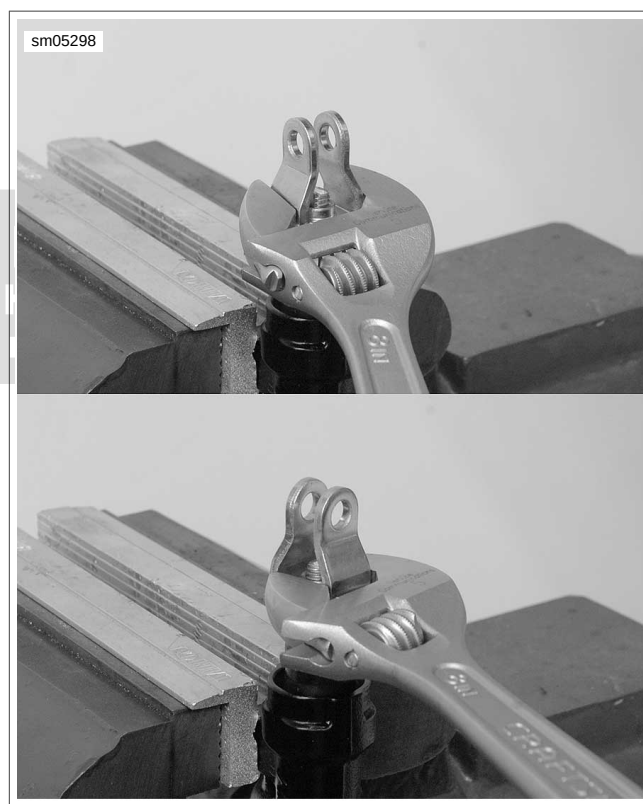

Figure 2-111. Holding Yoke (Top: Incorrect, Bottom: Correct)
See Figure 2-111. Grip yoke by the edges with an adjustable wrench. Do not grip yoke by the flats or the yoke may become deformed.
- See Figure 2-111. Hold yoke with an adjustable wrench. Using an open-end wrench, loosen shoulder nut. Remove yoke.
See Figure 2-111. Grip yoke by the edges with adjustable wrench. do not grip yoke by the flats or the yoke may become deformed.
15. See Figure 2-111. While holding yoke with an adjustable wrench, turn shoulder nut back against yoke. Tighten to 130-173 **in-lbs** (14.7-19.6 Nm).